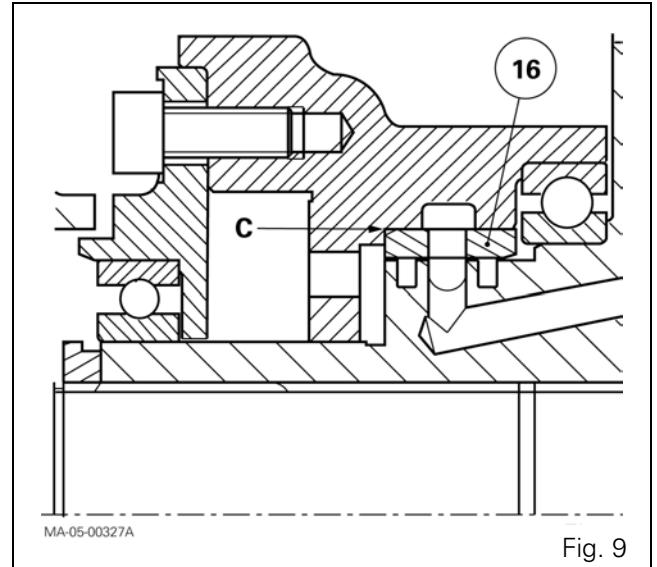
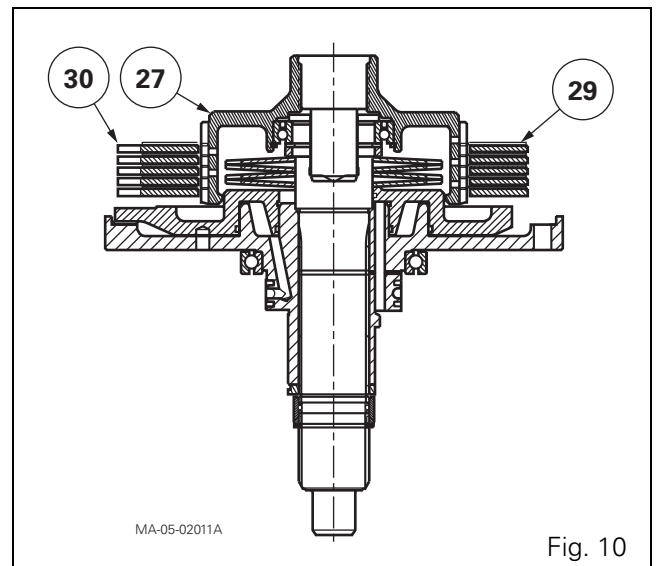

Fig. 9
Fig. 10
- 45. Assemble unit (18) fitted with the piston (28) on shaft (19).
- 46. Compress the Belleville washers using the same procedure as in operation 28. Position the ring (5), aligning two of the flat sections with those of the unit (18). Replace the rear snap ring (9) and correctly position it in the bottom of the groove.
- 48. Check that the seal rings (15) turn freely in their grooves. Fit the seal rings, lightly coated with miscible grease, making sure that they do not protrude beyond the rim of unit (18).
49. If required, fit the 1.5 bar valve (73). Tighten to a torque of 47 - 54 Nm.
Insert ring (16) using a suitable fixture, with the chamfer "C" turned as shown in Fig. 9.
50. Lubricate the ring. Assemble pump unit (1) on unit (18).
51. Lubricate pump (14) with transmission oil and position it aligning the flat sections of the rotor with those on the unit (18).
52. Manually check the angular movement of the rotor on the flat sections of unit (18).
53. Fit the bearing (12) on the cover (2) of the pump. Fit the cover. Install circlip (11) and screws (13) and tighten to a torque of 25 - 35 Nm.
54. Lubricate and install a new assembly (O'ring (7) and anti-extrusion ring (8)). Slide on the splined ring (6). Fit a new front snap ring (9).
55. Soak the discs (29) in a transmission oil bath for approximately 1 hour. Check that they are correctly impregnated.
56. Position the intermediate plates (30), aligning the tabs and the discs (29) on the hub (27) (see remark and Fig. 10).